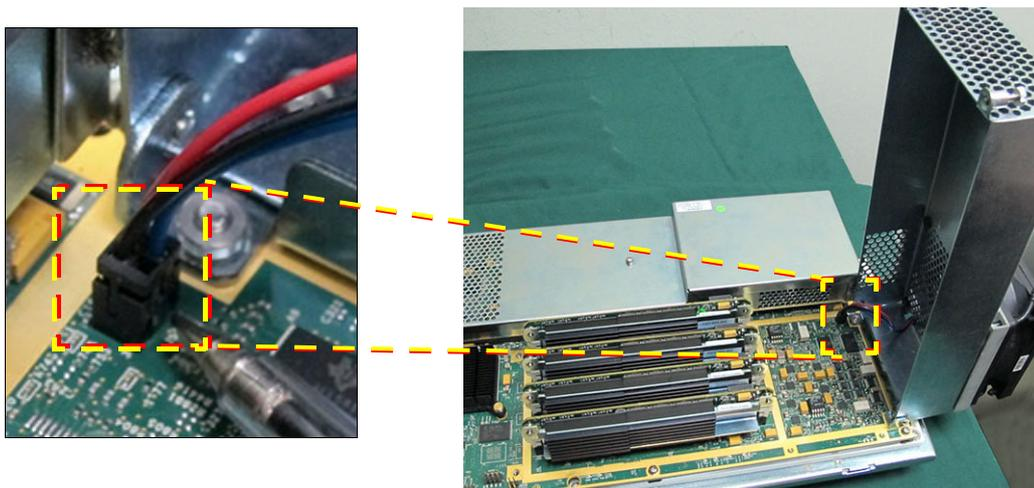

Figure 8-188 TRX32 Box Fan Cable Connected to CFE Board
4.) Disconnect the fan cable from the CFE Board - Figure 8-188.